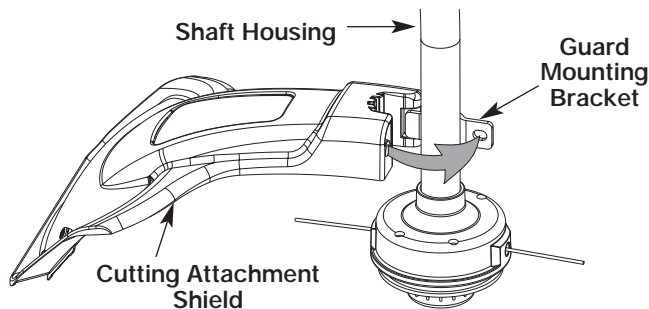

Fig. 5
1. Place the cutting attachment shield onto the shaft housing. Be sure the guard mounting bracket slides into the slot on the edge of the cutting shield. Rotate the shield into place, counterclockwise. The holes in the guard mounting bracket and cutting attachment shield will line up (Fig. 5).